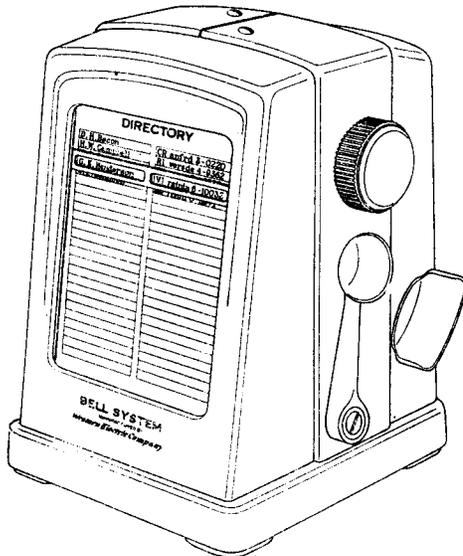

Fig. 1—D-97807 Dial
2.01 When fully equipped, the D-97807 Dial shown in Fig. 1 may be employed to call any one of a selected group of twenty-five telephone numbers of eight or less digits each.